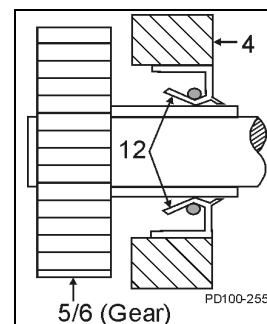

Figure 62 - Orientation of Oil Seal
6. Press new oil seal (Figure 62, item 12) into gear case cover flush with outside face, spring facing in.